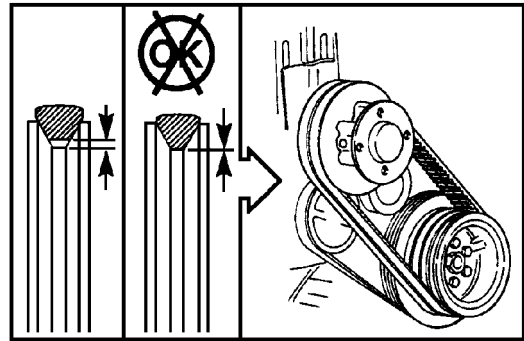

Figure 6.5-21
- When a drive uses two or more belts, the belt riding depth **must not** vary over 1/16 inch (2mm) between the belts (Figure 6.5-21).